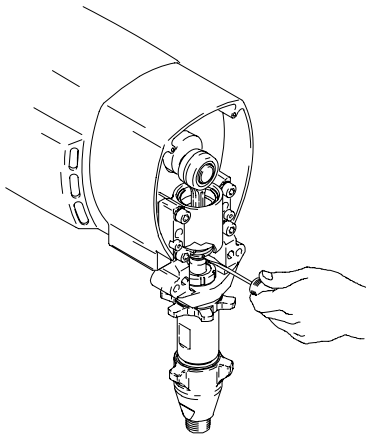

Fig. 21 _____ 7674A
3. Fig. 21. Use screwdriver to push retaining spring up.